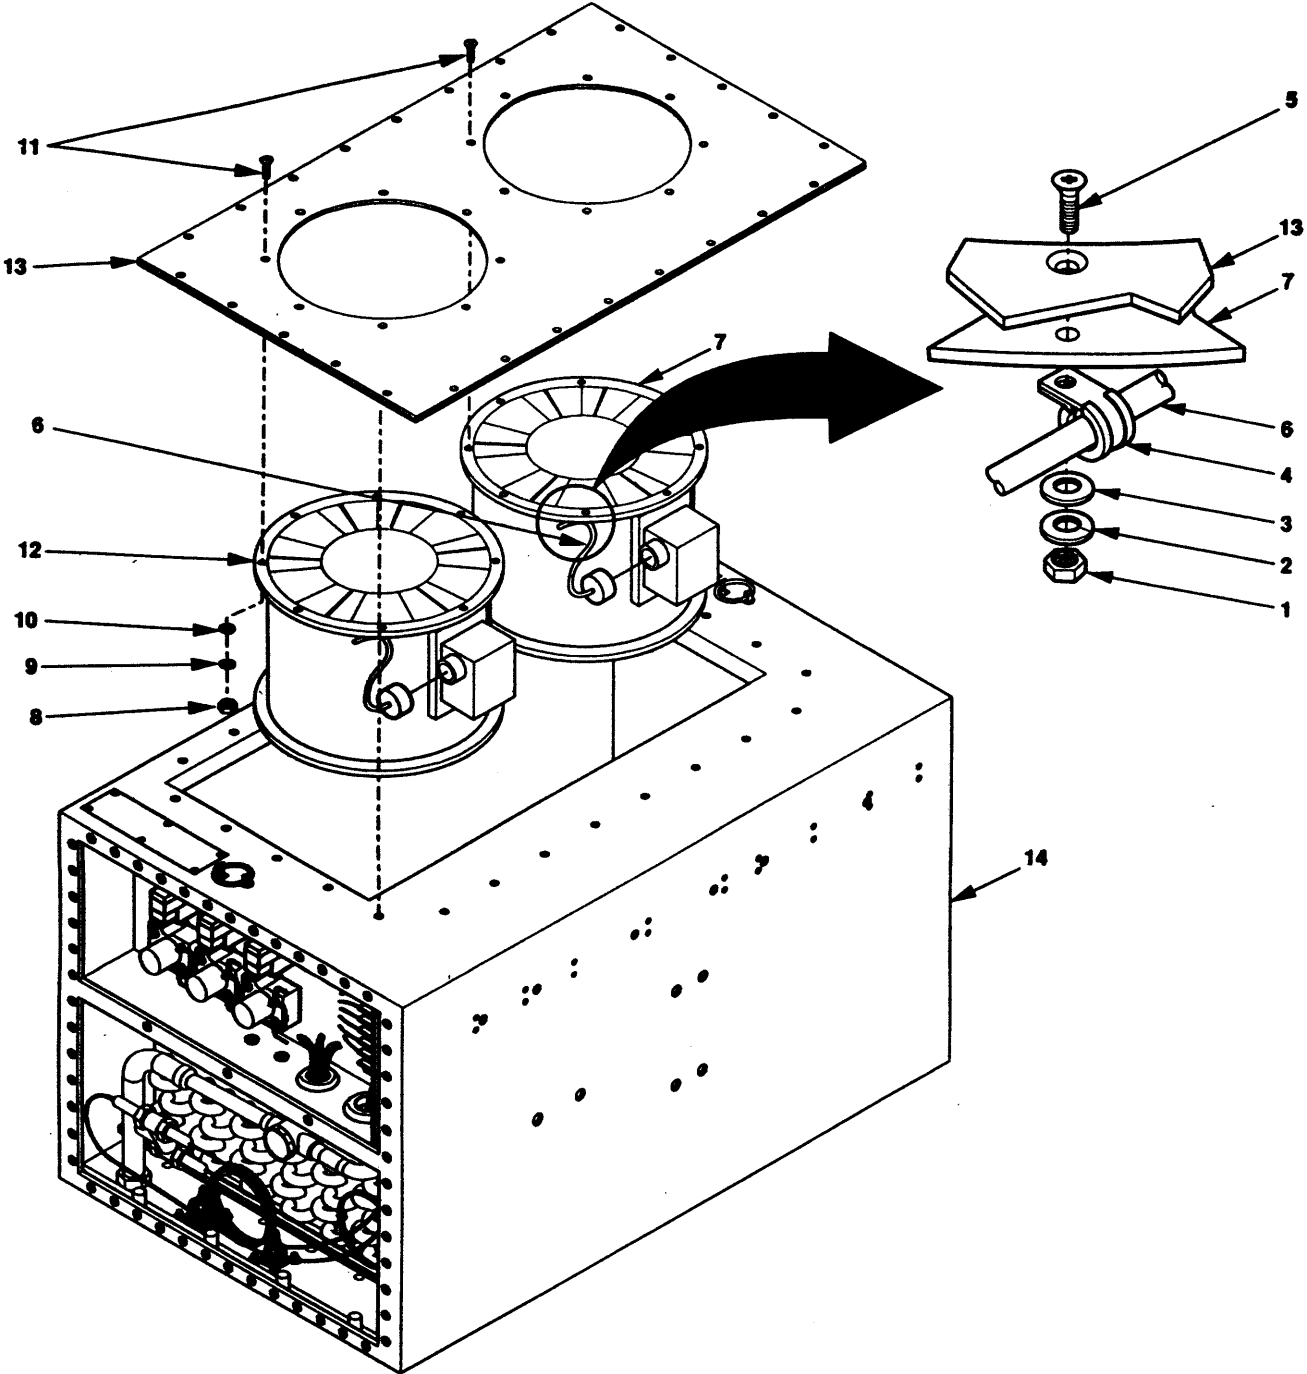

Figure 5-2. Condenser Vane Axial Fan Maintenance.
- (1) Refer to wiring diagram H-2 and tag and disconnect condenser vane axial fan electrical leads and remove and discard wire ties.
- (2) Remove nut (Figure 5-2, 1), lock washer (2), flat washer (3), cable clamp (4), screw (5), and wiring harness (6) from condenser vane axial fan (7). Discard lock washer (2).
- (3) Remove seven nuts (8), lock washers (9), flat washers (10), screws (11) and condenser vane axial fan (12) from condenser top panel (13). Discard lock washers (9).